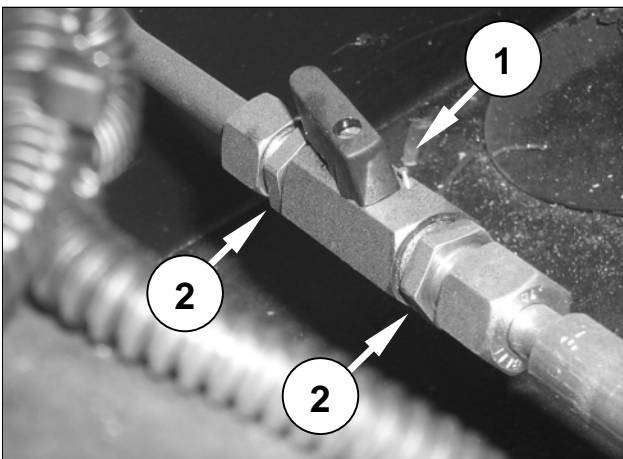

Figure 2: T2145 and C2045 shut-off valve installed between and heater flex tubing and coach tubing
Retrofit parts – heater flex tubing directly connected to copper coach tubing (see Figure 2)
- 5) Install the valve assembly between the heater flex tubing and the copper coach tubing as shown in Figure 2. The valve is not directional.